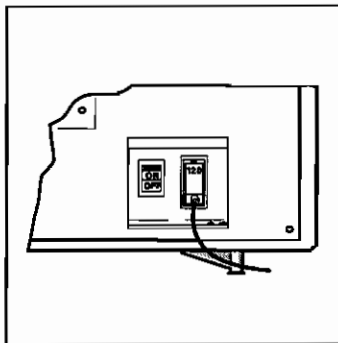

Figure 2.1b
Step 4 - Check the outlet voltage to make sure it matches the voltage set on your instrument and that it is within the specification provided in the System Description section. See Figure 2.1b and 2.1c.